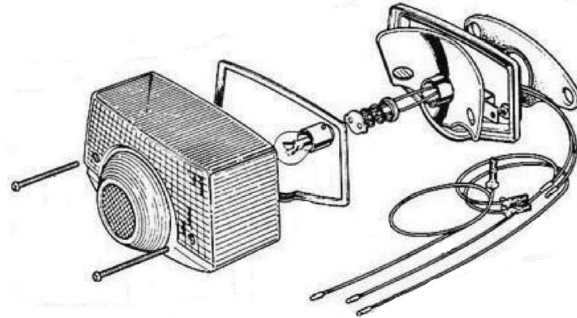

Figure 3
1. Start the installation by disassembling the taillight by removing the following, the screws, lens, lens packing and bulb as shown in Figure 3. *Note: Sometimes the lens packing is stuck onto the lens.*